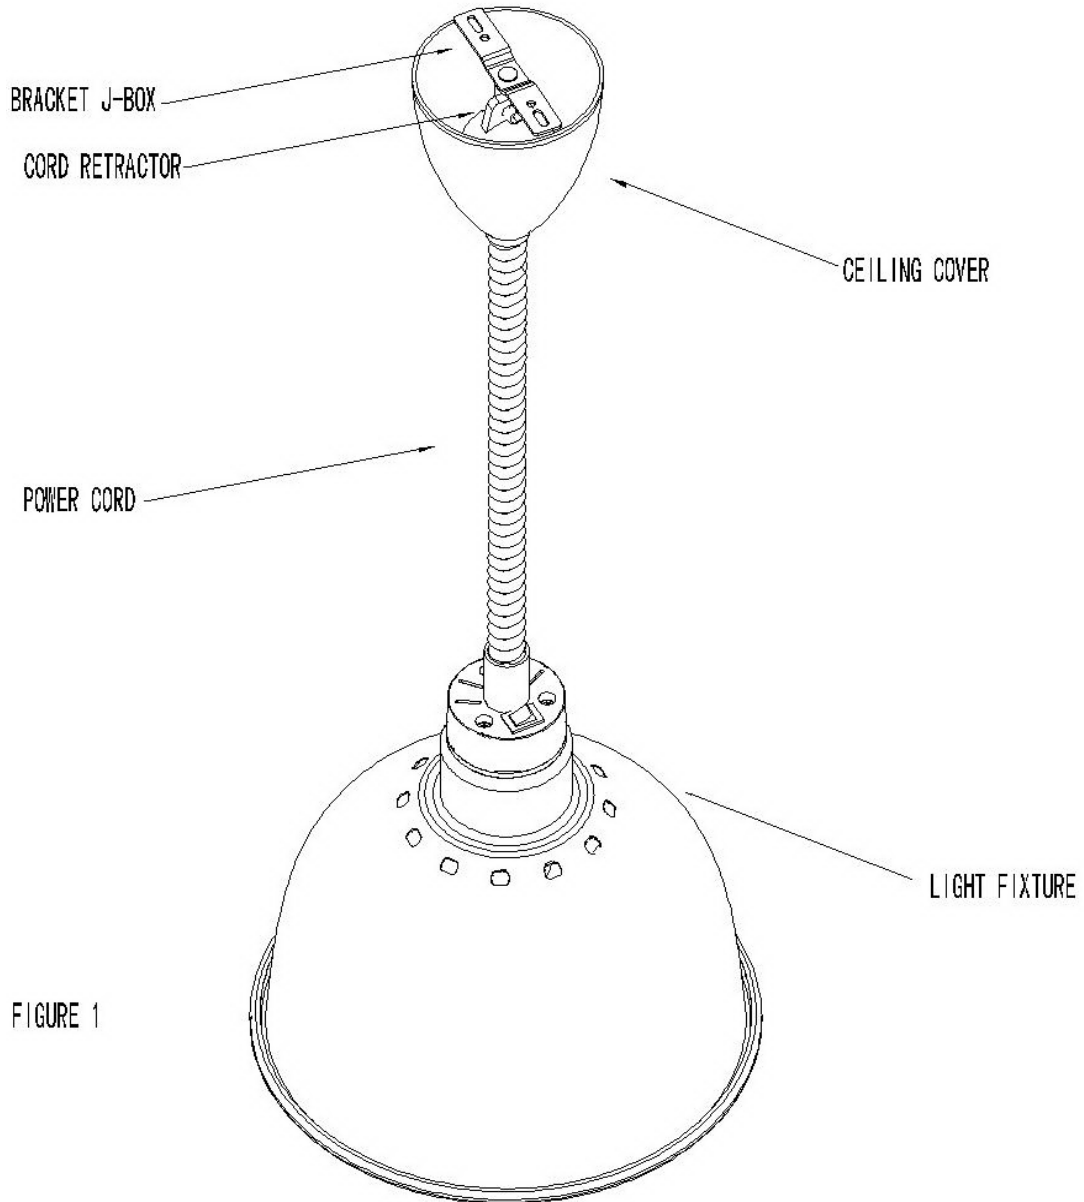

FIGURE 1
The retractable cord warmer is shipped in one carton. Prior to installation insure that all components shown in Figure 1 are present.
- Remove the ceiling cover attachment nut. Pull ceiling cover down over nipple to expose the J-box bracket. (See figures 1 and 2).